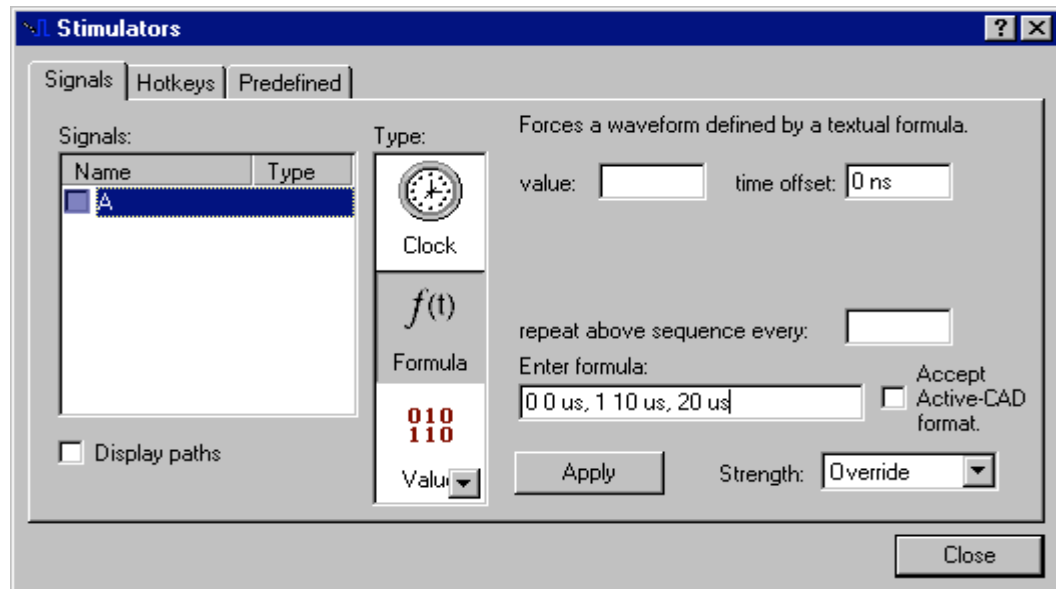

Figure 50
2. In the “Enter formula” field, enter the value (1 or 0) followed by a space and the time at which to assert this value. For example, the following formula will cause a signal to start out at 1, then change to 0 at 10 us and back to 1 at 20 us: 1 0 us, 0 10 us, 1 20 us (see Figure 50).